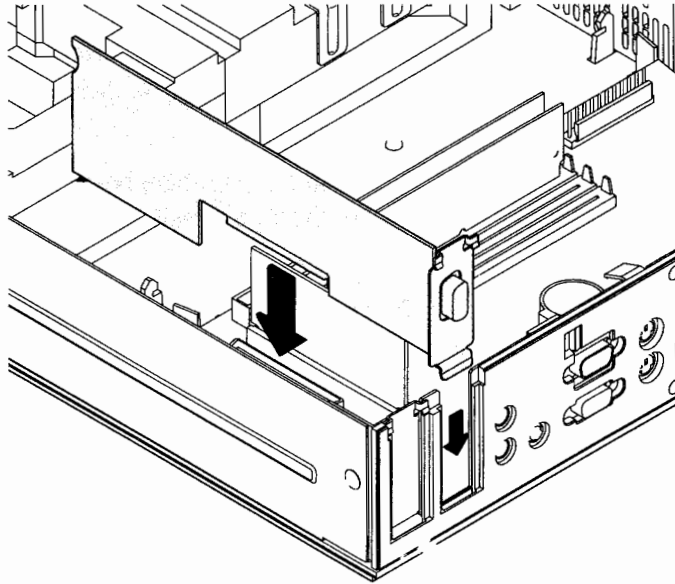

Figure B-22. Installing an Expansion Board
3. Install the expansion board by inserting the board into the expansion board connector, as shown in Figure B-22. Press the board firmly into the connector to make sure it is fully seated.